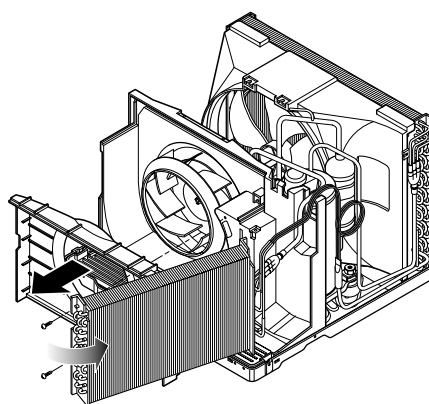

Figure 17
9. Move the evaporator forward and pulling it upward slightly. (See Figure 17)